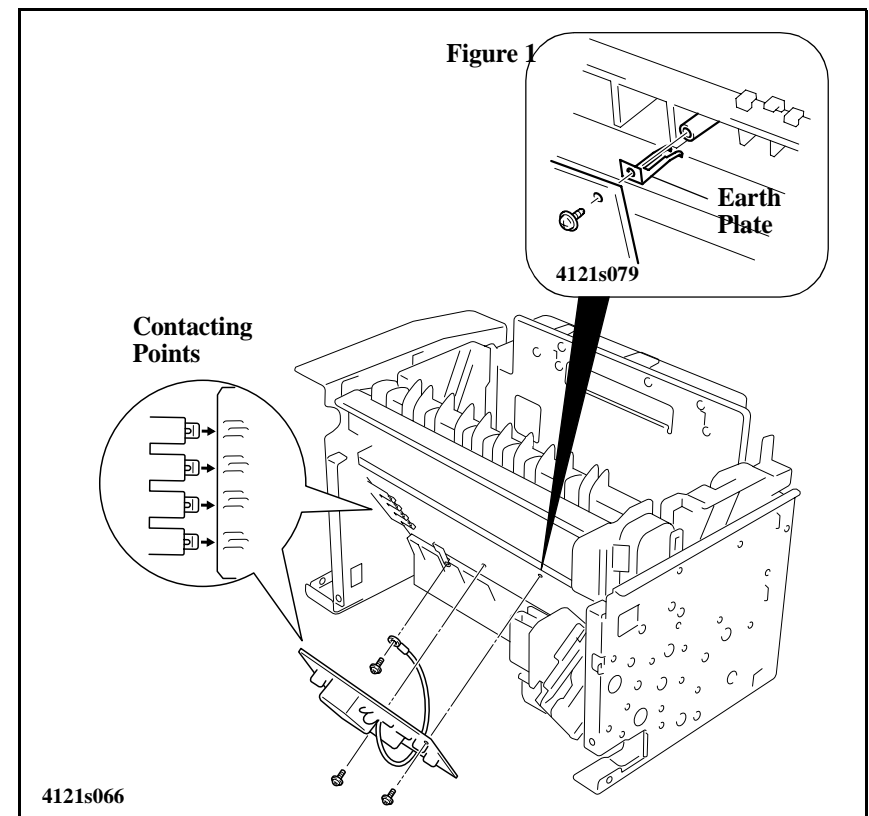

Figure 4-29. High Voltage Unit (HV1) Removal
■ Install the earth plate at the rear of the high voltage unit as shown in the Figure 1 in the Figure 4-29.